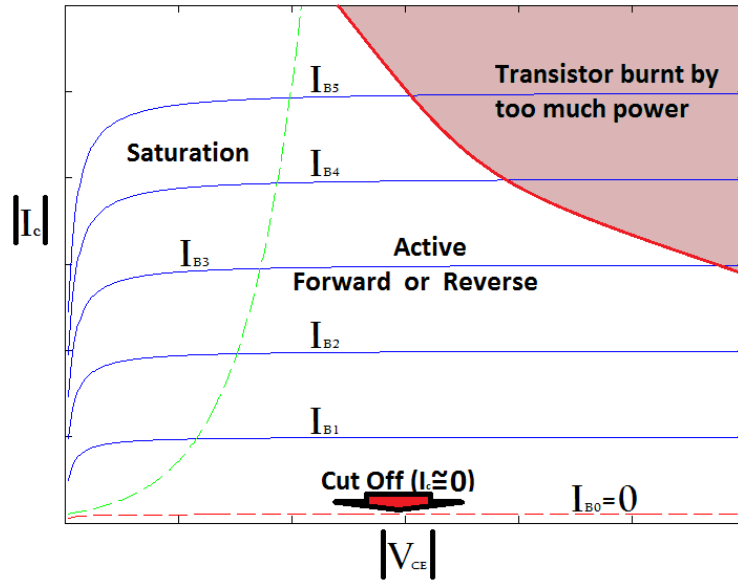

Figure 7.1 Output characteristic of BJT in different region
3. Draw the output characteristic curve as shown in Fig. 7.1 using **Multisim results**.
5. Draw the output characteristic curve as shown in Fig. 7.1 using **Experimental results**.